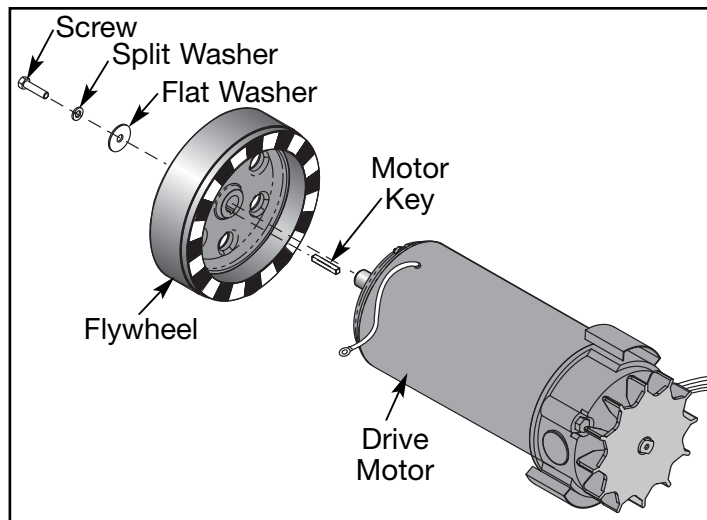

Figure 14
- A. Using a 7/16" socket wrench, remove the flywheel, screw, washers and motor (ansi square) key from the old motor. See Figure 14.
- B. Place the flywheel in position on the new motor and slide the motor key into the slot on the flywheel. See Figure 14.
- C. Using a 7/16" socket wrench, install the flat washer, split washer and screw that hold the flywheel on the motor and then tighten securely (80 in-lbs). See Figure 14.